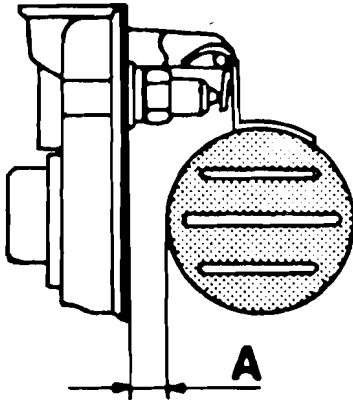

Fig. 3.7 Weber carburettor float adjusting diagram (Sec 11)
27 Measure the distance between the nearest point on the float and the surface of the gasket. This should be as shown in Fig. 3.7. Where necessary, slightly bend the float tongue to adjust the dimensions.
- 26 As reassembly progresses, check the float setting as shown in Fig. 3.7 except that dimension A should be between 14.5 and 15.0 mm (0.57 and 0.59 in). Where the dimension is not as stated, renew the float.